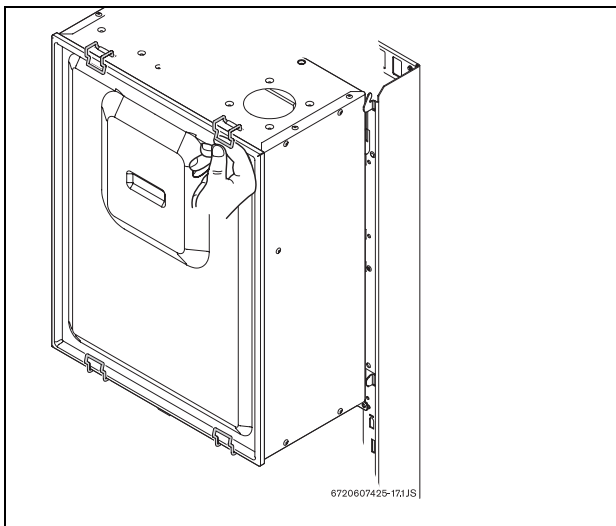

Fig. 1 Combustion cover
- ▶ Remove combustion cover by releasing the four clips that secure it (Fig. 1).